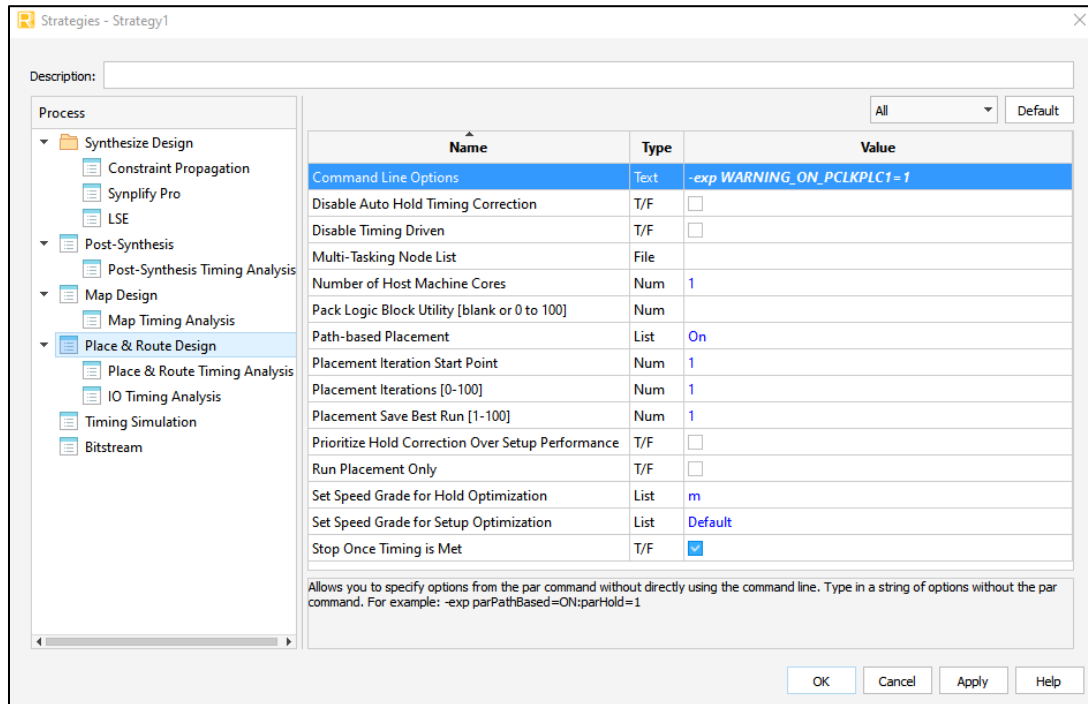

Figure B.3. Setting Environment Variables
- d. In the **Strategies** dialog box, set the environment variable for **Place & Route Design**. Enter `-exp WARNING_ON_PCLKPLC1=1` in the Value of **Command Line Options** if TCK connects to normal I/O (Figure B.3).